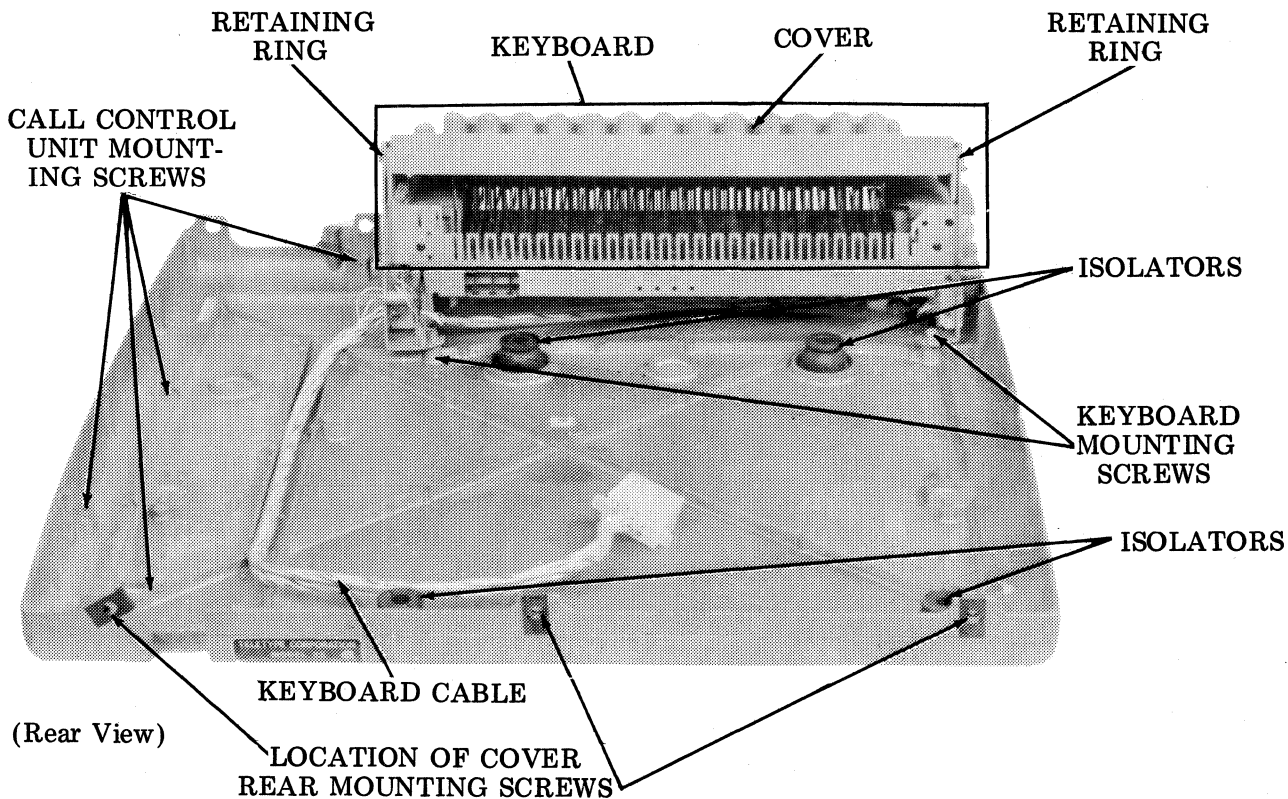

Figure 3 - Subbase With Keyboard
2.03 To remove the keyboard (Figure 3), proceed as follows.
2.04 To remove the call control unit (Figure 3), proceed as follows.